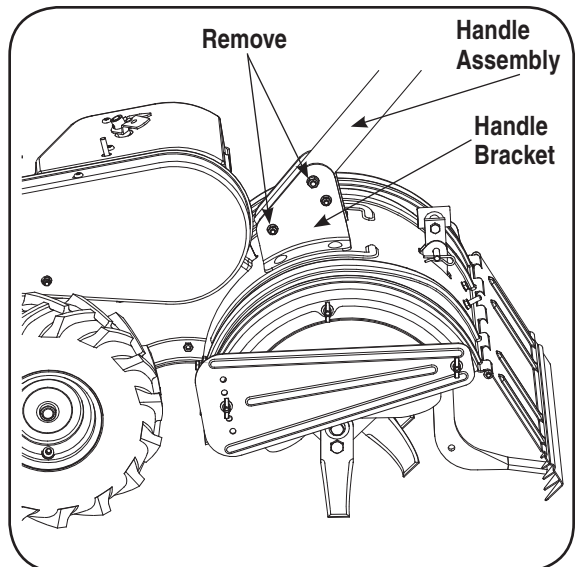

Figure 3-2
- Remove top two bolts and flange lock nuts from handle mounting brackets, but do not remove the bottom bolt and nut. See Figure 3-2.